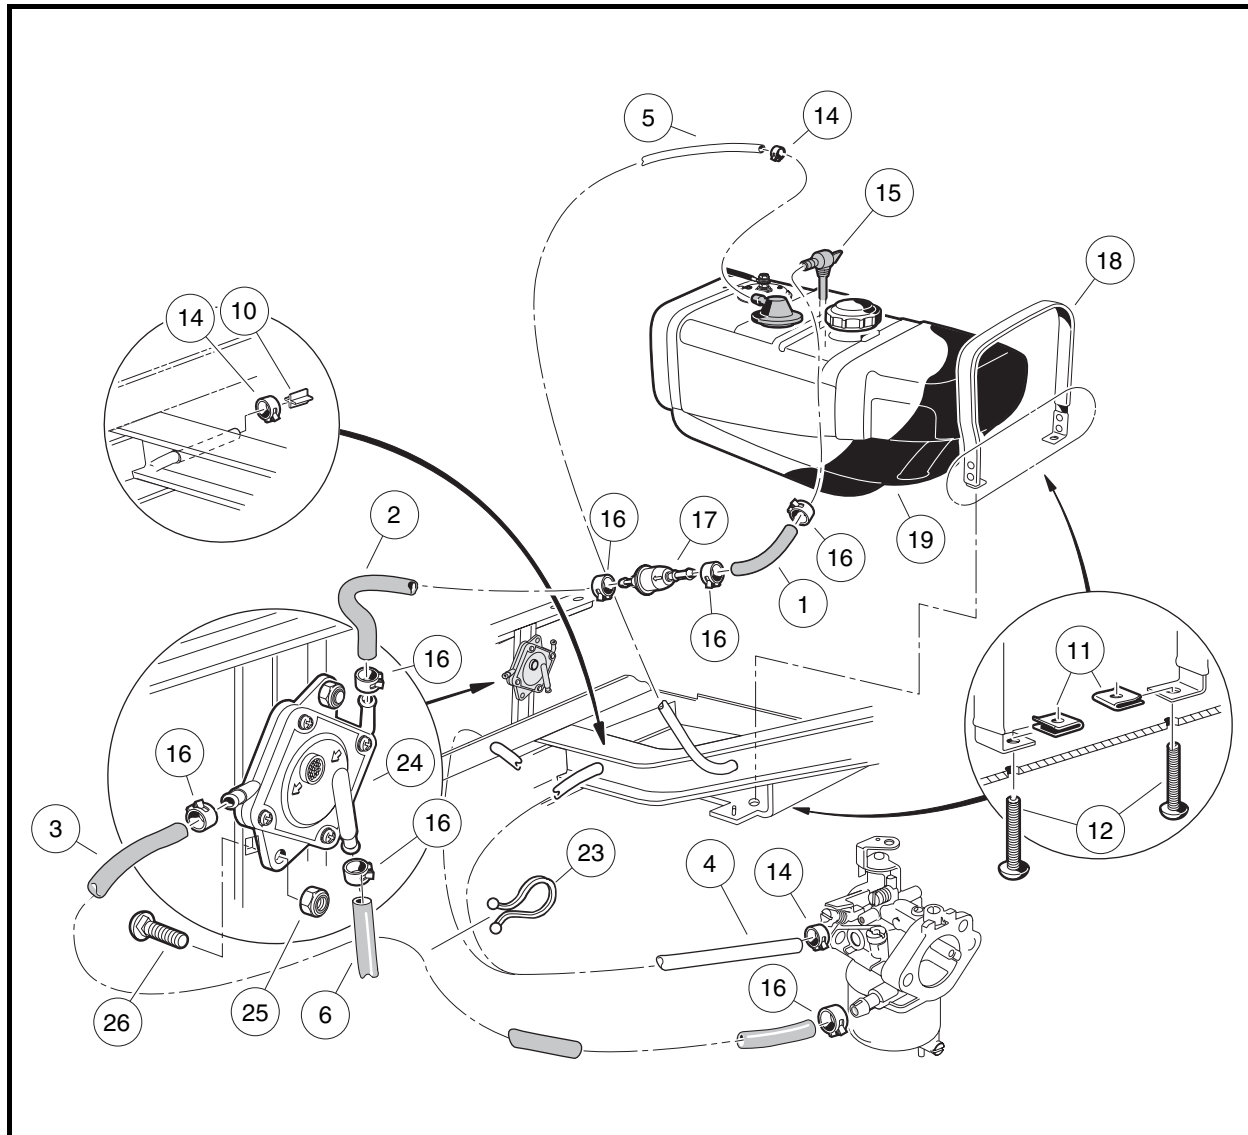
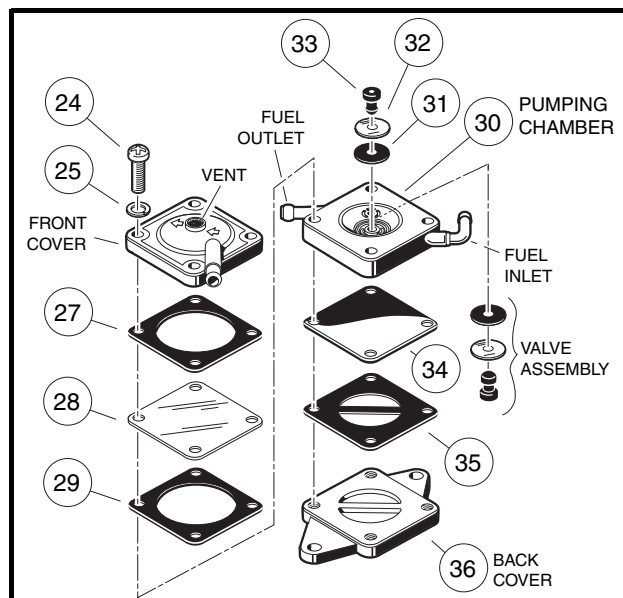
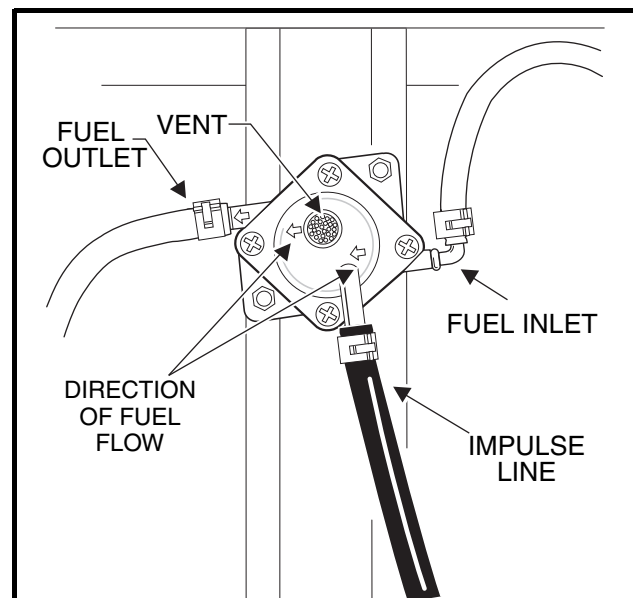

Figure 16-13 Fuel and Vent Lines
Figure 16-14 Fuel Pump
Figure 16-15 Fuel Pump Orientation
3. To prevent fuel drainage, turn the fuel shut-off valve (15) (**Figure 16-13, Page 16-18**) on the fuel tank to the closed (OFF) position (**Figure 16-18, Page 16-25** or **Figure 16-19, Page 16-25**).
4. Remove the primary fuel filter (17) (**Figure 16-13, Page 16-18**).
1. Install the primary fuel filter (17) in the fuel line. Use new clamps (16) (**Figure 16-13, Page 16-18**).
2. Install the secondary fuel filter (22) in the fuel line. Use new clamps (16).
4. Remove hardware attaching the fuel pump (24) and lift the fuel pump out of the engine compartment (**Figure 16-13, Page 16-18**).
5. Remove the clamp and impulse line (7) from fuel pump.
2. Remove four screws (24) and lock washers (25) from front of the fuel pump (**Figure 16-14, Page 16-20**).
- Note the orientations of the impulse gasket (27), the diaphragm (28), and the gasket (29), then remove them from the pump.
- If the impulse gasket (27) and the diaphragm (28) come off with the front cover, note their orientations and remove them (**Figure 16-14, Page 16-20**).
- Remove the pumping chamber (30).
- Remove the back cover (36), the fuel diaphragm (34), and gasket (35) (**Figure 16-14, Page 16-20**).
- Inspect the valve assemblies (31, 32, and 33) and all gaskets and diaphragms for damage (**Figure 16-14, Page 16-20**).
- If a valve assembly is damaged, the rubber retaining plug (33) and valve assembly must be replaced.
- Install the fuel gasket (35) and diaphragm (34) on the back cover (36) (**Figure 16-14, Page 16-20**).
- Install the valve assembly in the pumping chamber (30). **See following CAUTION.**
- If the valve assembly is not installed exactly as shown (**Figure 16-14, Page 16-20**), the impulse fuel pump will not operate properly.
- Install the pumping chamber (30) on top of the fuel diaphragm (34). Be sure the fuel inlet and the fuel outlet align with the arrows on the front of the front cover (**Figure 16-14, Page 16-20**).
- Install the gasket (29), clear impulse diaphragm (28), and the paper impulse gasket (27) to the pumping chamber (30).
5. Install the front cover and then the lock washers (25) and four screws (24) on the assembly (**Figure 16-14, Page 16-20**). Be sure the arrows on the front cover point from the fuel inlet to the fuel outlet (**Figure 16-15, Page 16-20**). Tighten the screws to 26 in-lb (3.0 N·m).
1. Connect to the fuel pump the fuel line (2) that comes from the primary fuel filter (17). Install a new clamp (16). Route the fuel lines as shown (**Figure 16-13, Page 16-18**).
NOTE: Be sure to connect the fuel line (2), that comes from the primary fuel filter (17), to the inlet nipple on the pump. Direction of fuel flow is indicated by the arrows on the fuel pump (**Figure 16-13, Page 16-18**). See also **Figure 16-15, Page 16-20**.
2. Connect to the output side of the fuel pump, the fuel line (3) that goes to the secondary fuel filter.
3. Connect the impulse line (7) to the bottom nipple on the fuel pump. Use a new clamp (16).
9. Remove the vent tube (6) and fuel line (1) from the fuel tank (**Figure 16-13, Page 16-18**).
10. Loosen the straps (13 and 18) by removing the screws (12) from the speed nuts (11).